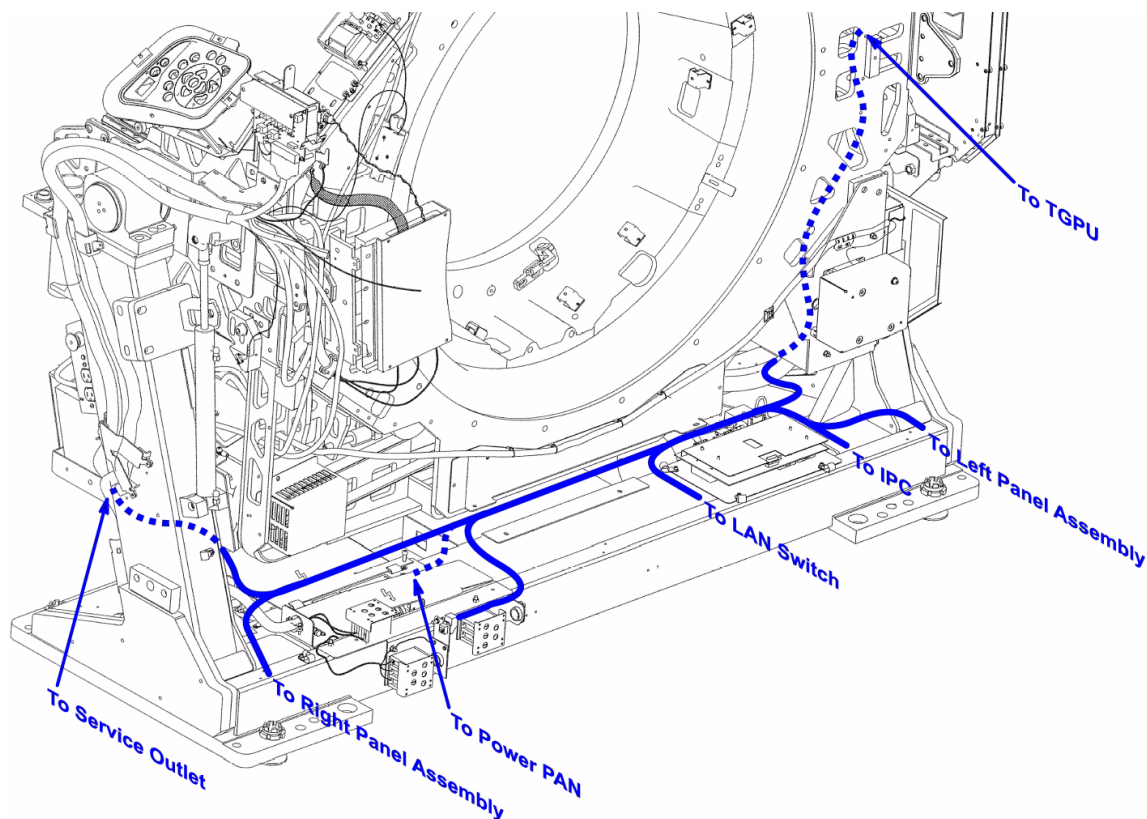
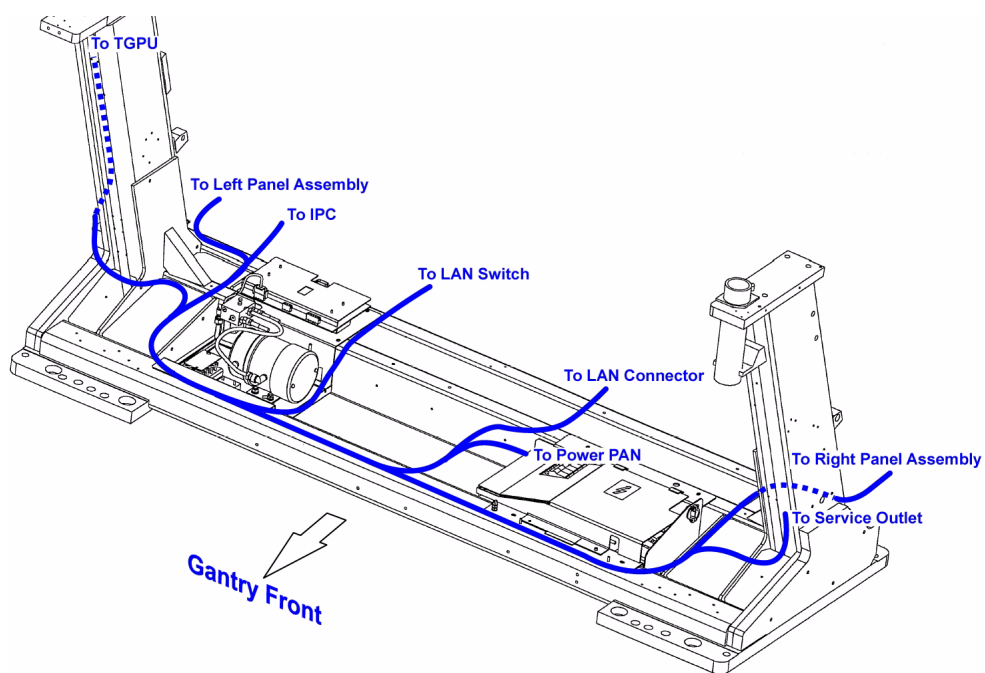

Figure 1-9 Cable Wiring
Figure 1-10 Cable Routing
- 1.) Carefully route the cable harness as shown in illustration Figure 1-9 and Figure 1-10.